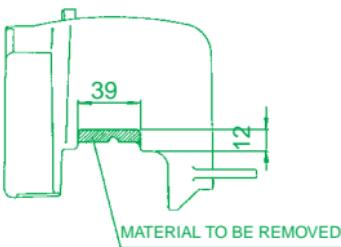

Fig. 1
- Fit the head gasket (9) and the original head, duly cleaned from any carbon deposits, on the stud bolts fully home on the cylinder.
- Fit cover (modified as shown in Fig. 1) on the cylinder, the air conveyor, and the new spark plug (see section "Important notes").